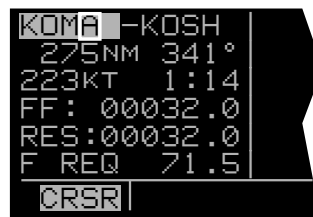

Figure 5-14
3. Use the left inner and outer knobs to enter the identifier of the “from” waypoint (figure 5-14).